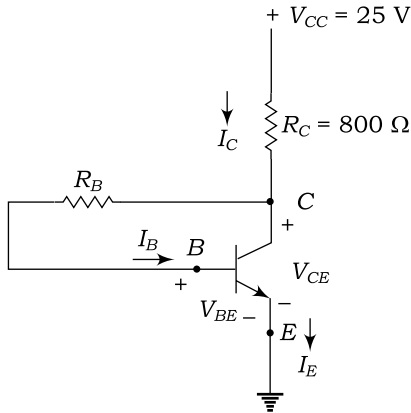

Fig. 2.119
46. Determine the biasing resistance R_B of a collector feedback biasing circuit of an *NPN* transistor as depicted in Fig. 2.119 when the base current is 0.22 mA . Calculate the collector current, collector to emitter voltage and stability factor. Assume $V_{BE} = 0.7 \text{ V}$ and $\beta = 85$.